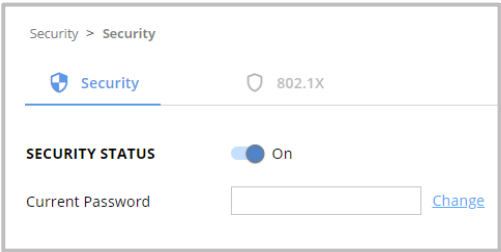

Figure 33: Security – Security Tab
- 1. Go to the Security page (Figure 33).
- 1. Go to the **Security > Security** (Figure 33).
1. Go to the Security page (Figure 33).